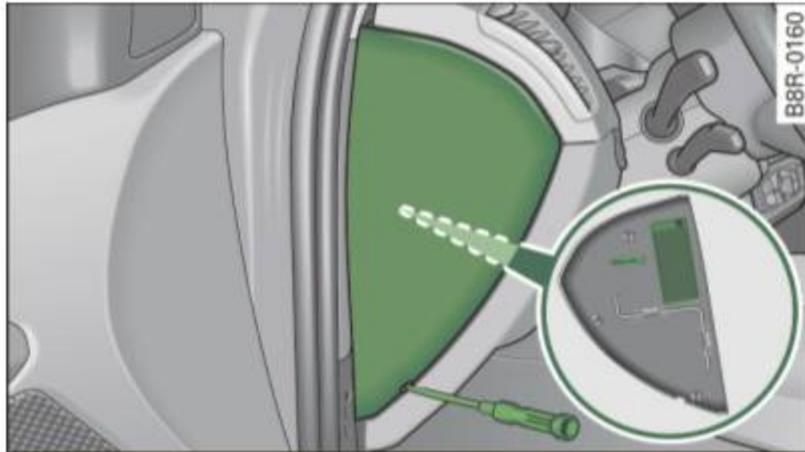

Fig. 227 Instrument panel left: Face cover
- Carefully pry the face cover off the instrument panel using a screwdriver ⇒ fig. 227.